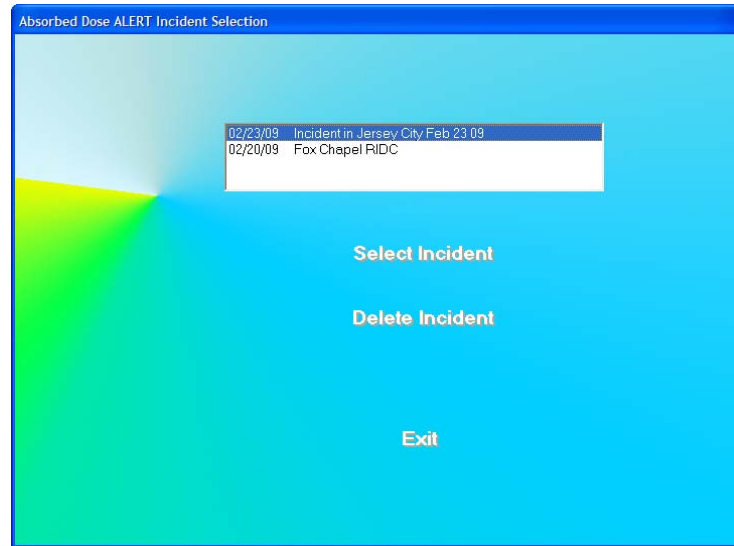

Figure 9-9
- To select an incident, click on the incident name in the list box on Figure 9-8 Incident Selection Screen. The Incident name will become highlighted and the **Select Incident** and **Delete Incident** buttons will become enabled as shown in Figure 9-9.